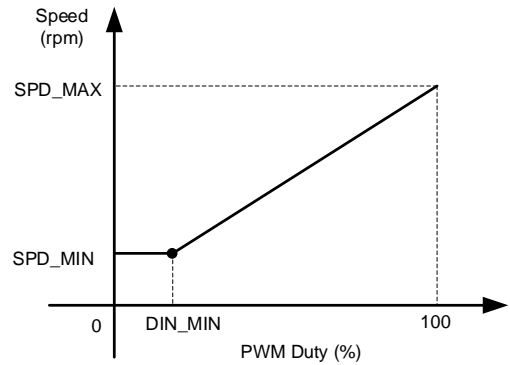

Figure 2: Speed Curve if SPD_ZERO = 0 and MAX_EN = 0
1. If SPD_ZERO = 0 and MAX_EN = 0, then SPD_MIN determines the speed (see Figure 2).